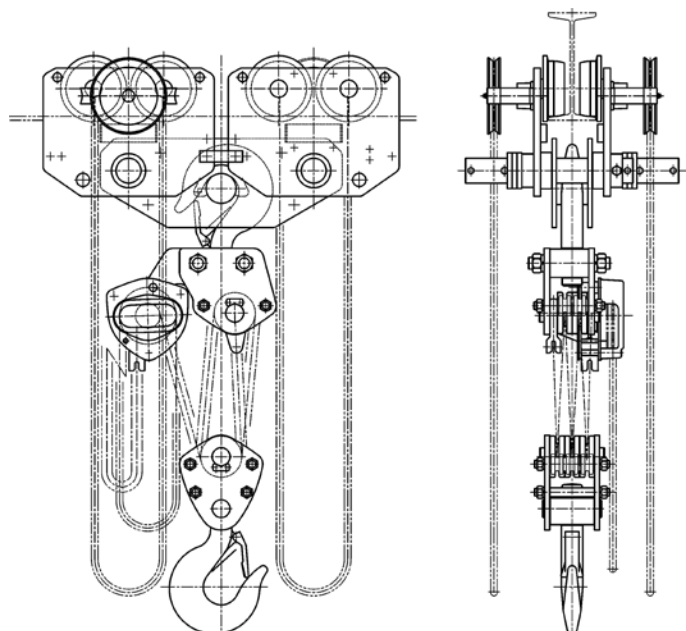

Figure 3-6 15-20 Ton CB mount
- 3.1.4 For 15 and 20 Ton capacities, Harrington's Model CB Series chain hoist is hook mounted to a suspension shaft which is connected to a pair of side plates. The side plates are mounted to the TF/TS trolley using two additional suspension shafts as shown in **Figure 3-6**. Since the hoist is directly hook mounted, no additional hoist preparation is necessary. See **Section 3.4** for more information on trolley assembly.